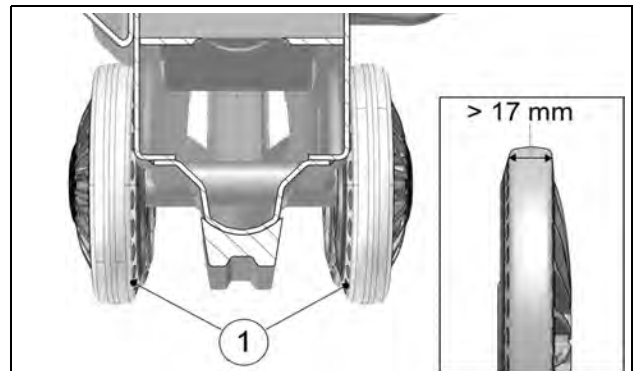
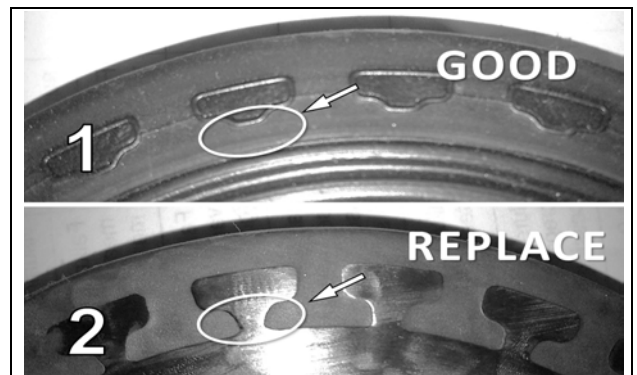

Figure 40
Figure 41
Verify wear on interior guidance strip (1) of 134-mm wheels. If internal plastic structure is visible (Fig. 41-2), rubber coating is worn away and wheel must be replaced. Replace wheels also if rolling band narrows to a width of 17 mm or less (22 mm when new). An excessively worn wheel will not offer enough support for track guidance. Figure 40 and Figure 41.